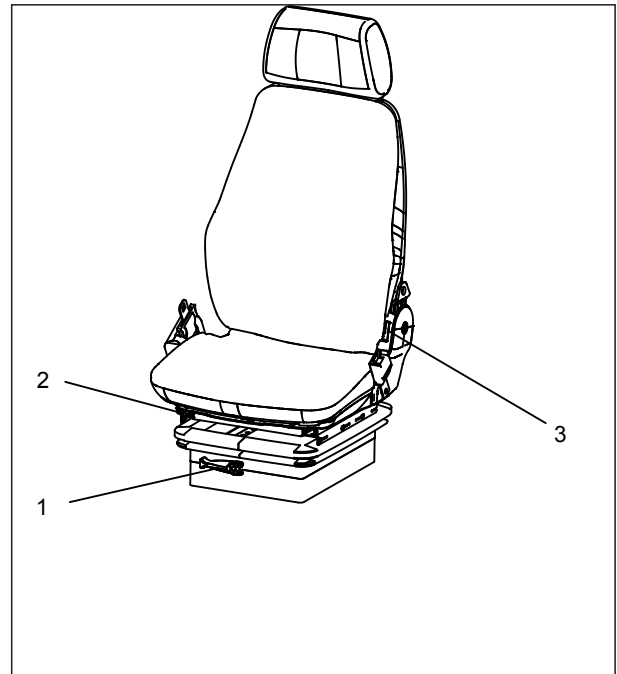

Fig 3.8
2. Body weight and height adjustment. Pull up the seat can adjust height, there are three levels (low, middle, high), when the seat is on high level, if pull up the seat, it will return low level. The adjusting handle (1) on seat can adjust the rigidity of suspension mechanism, (the green indication belt on body weight adjustment indication strip is at a visible position).
3. Front/rear adjustment. Pull handle (2) on the right side to slide seat to a proper position. The maximum front and rear adjustment distance is 210mm.
4. Back angle adjustment. This is used to make the driver lean tightly on the seat back. Pull handle (3) on the left to move the back to a proper position, and then put down the handle. The back angle adjustment scope is larger than 90° .
5. Headrest height adjustment. Adjustment scope of 105mm (see Fig 3-8).